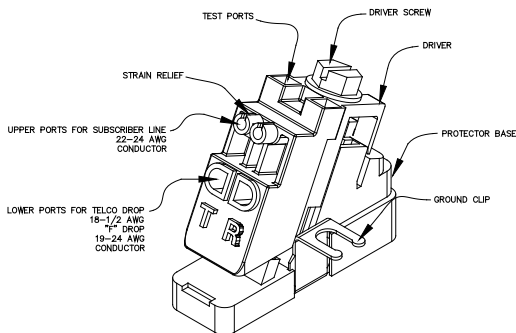
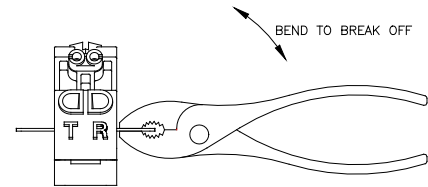

Figure 1
Figure 3
- The Angle Driver (Sealed IDC Protector) is delivered with a universal grounding and mounting tab (See Figure 1). If installing a new module, break away the unwanted ground tab from the module using a pair of pliers and discard (See Figure 3). Binding post protectors do not require this step. Simply install the module on desired ground post and secure with washer and nut.